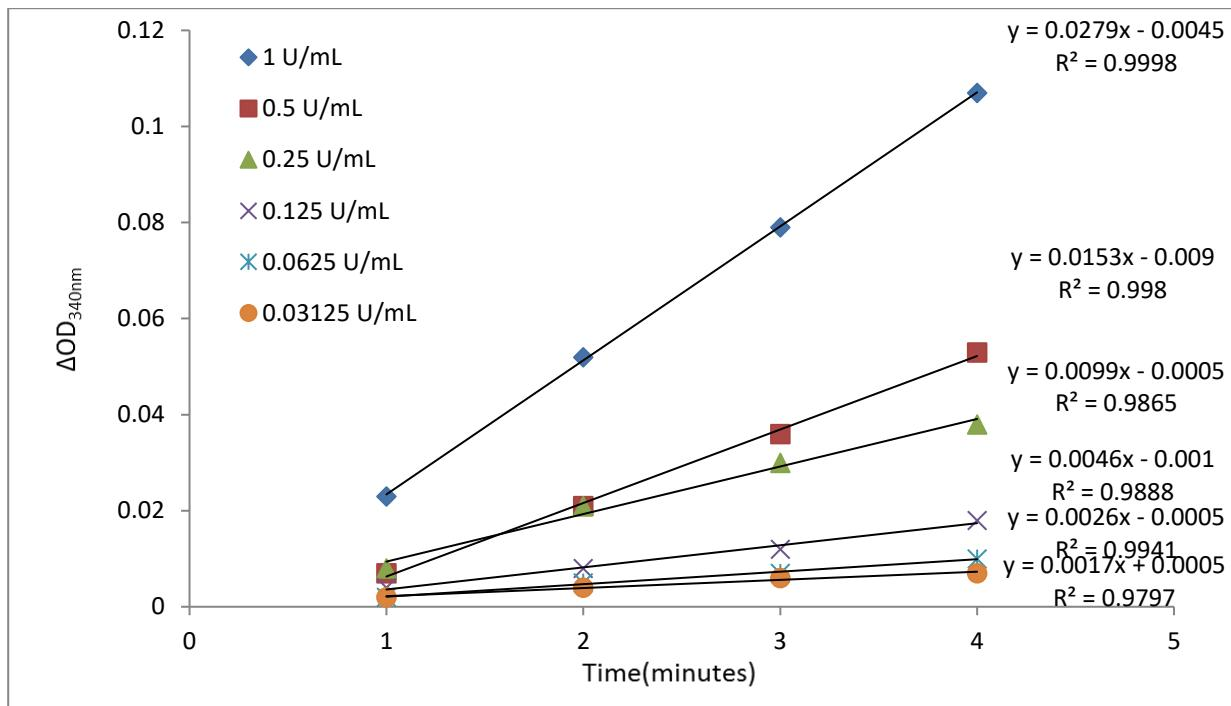

Figure 1. Standard curves of  $\Delta OD_{340nm}$  vs reaction time for alanine transaminase solution with different activity.
Serially diluted alanine transaminase solutions with concentrations ranging from 0.03125 to 1.0 U/mL are measured with the ScienCell™ Alanine Transaminase Assay kit. The decrease in  $OD_{340nm}$  is monitored as a function of time (Figure 1) and the resulting standard of  $\Delta OD_{340nm}/min$  vs alanine transaminase activity are plotted (Figure 2). A positive linear relationship between  $\Delta OD_{340nm}/min$  & alanine transaminase activity can be observed.
- Based on the  $\Delta$ OD340nm of the alanine transaminase standard solutions, plot the absorbance at  $\Delta$ OD340nm as a function of reaction time (Figure 1) in which  $\Delta$ OD340nm /min is calculated.
Figure 2. A standard curve of  $\Delta OD_{340nm}/\text{min}$  vs alanine transaminase activity, wherein the  $\Delta OD_{340nm}/\text{min}$  is calculated as the slope of the standard curves shown in Figure 1.